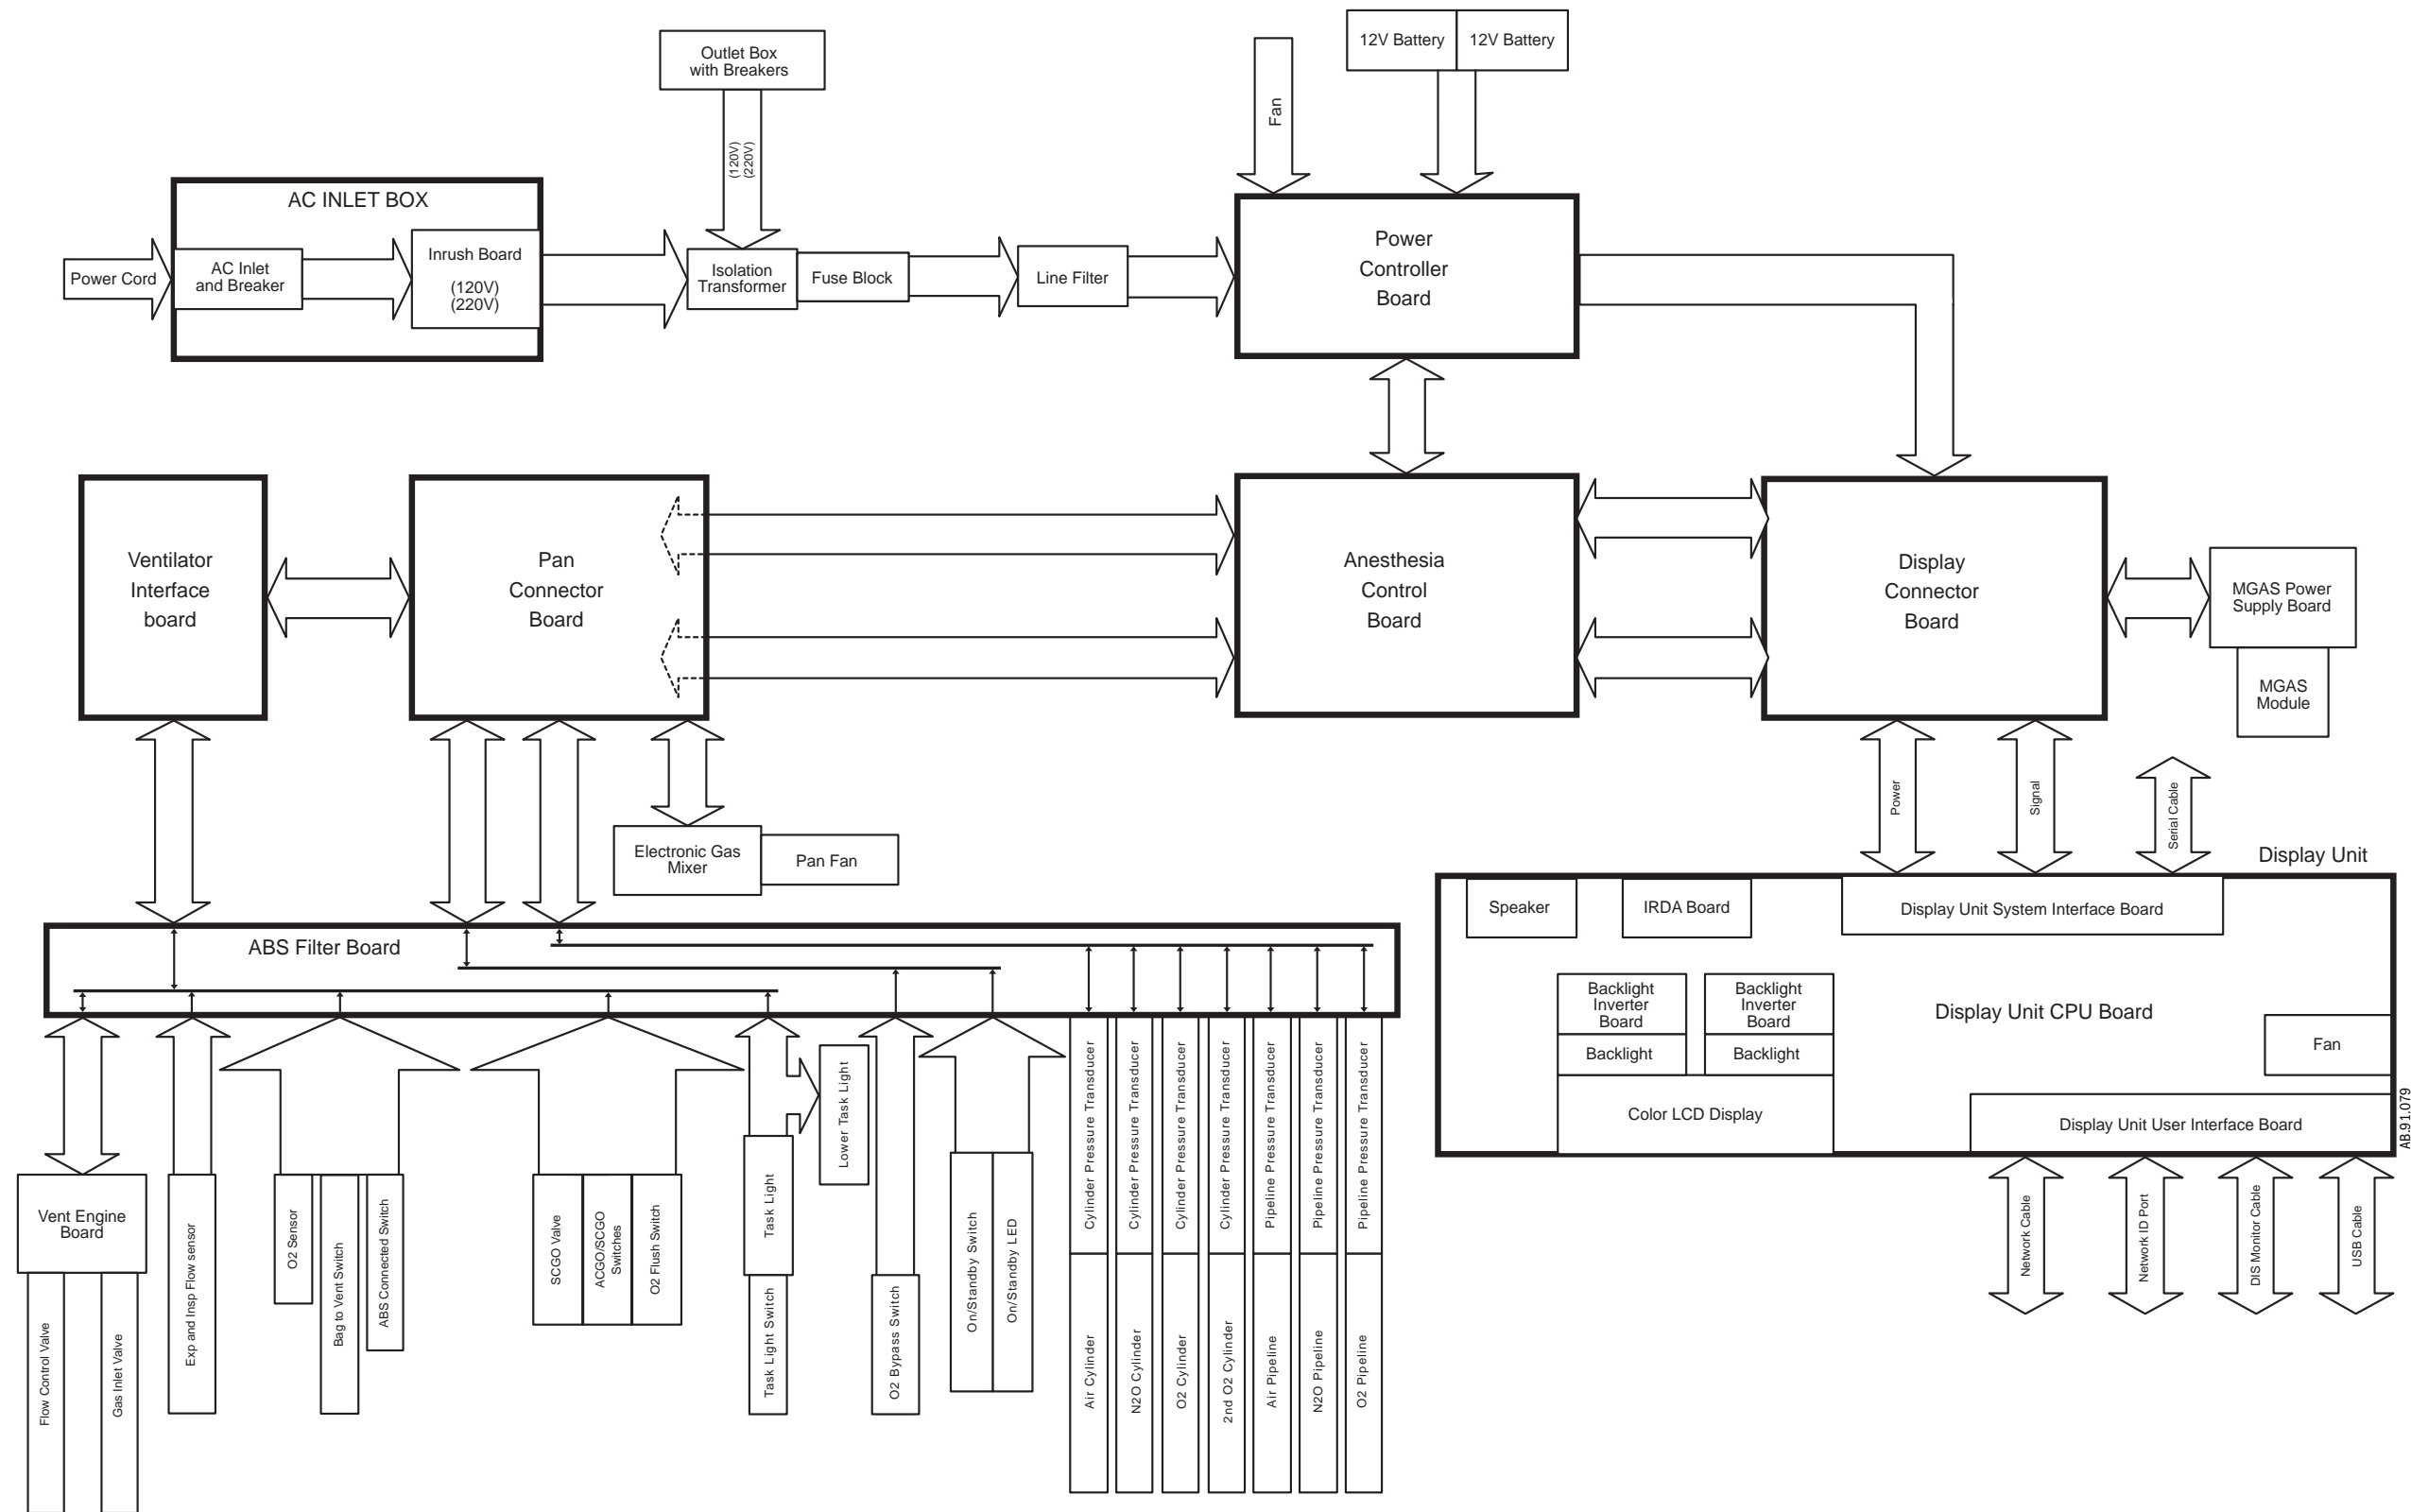

Figure 11-4 • Cabling block diagram
- Figure 11-4** Cabling block diagram 11-5